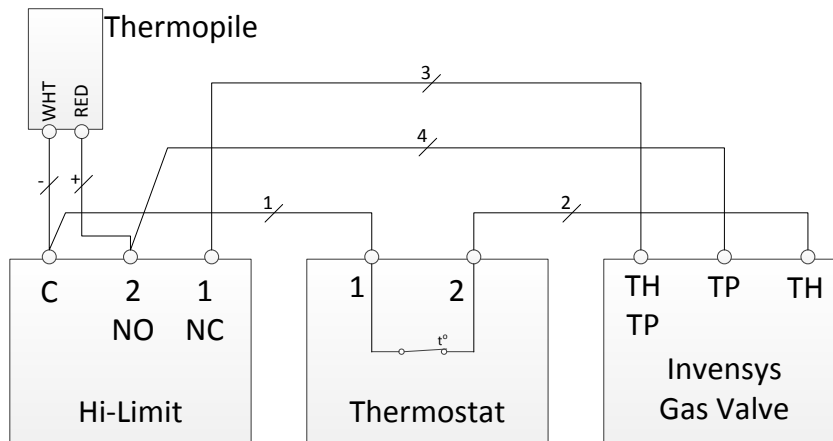

Figure 1: Wiring Diagram for Entrée F-series Fryer
2. Thermopile – how to determine if it is bad (see Figure 1)
3. Gas Valve – how to determine if it is bad (see Figure 1)
4. Hi-Limit – how to determine if it is bad (see Figure 1)
- 5. Thermostat – how to determine if it is bad (see Figure 1)**